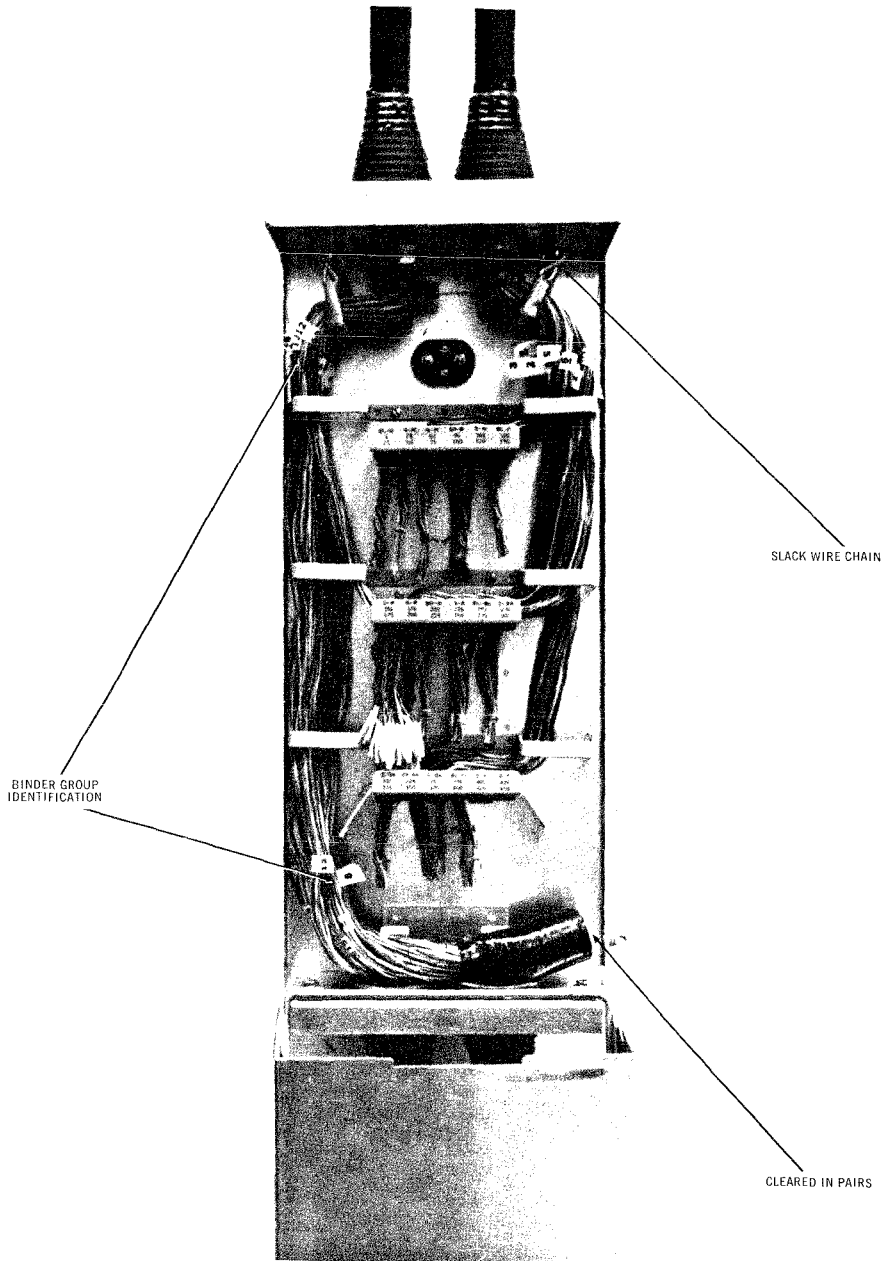

Fig. 9 — 29Q4B Wired
13.02 The 29Q4B was used as a control or access point and is capable of holding a maximum of 450 OUT pairs. (See Fig. 9).